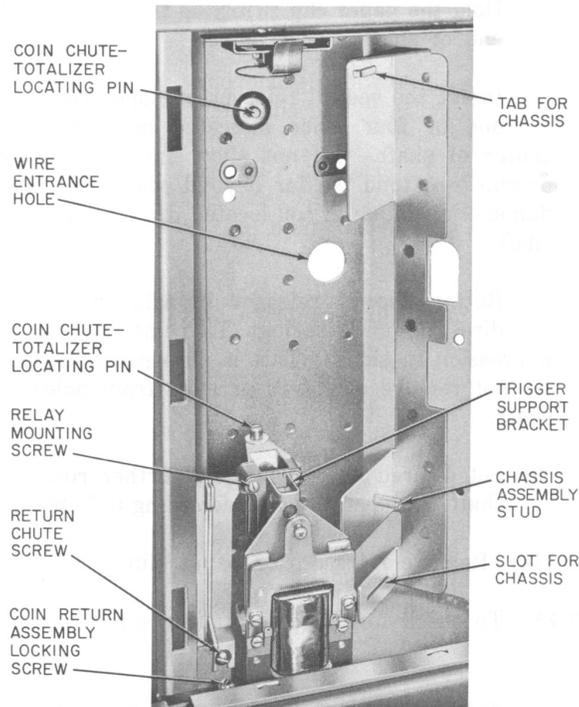
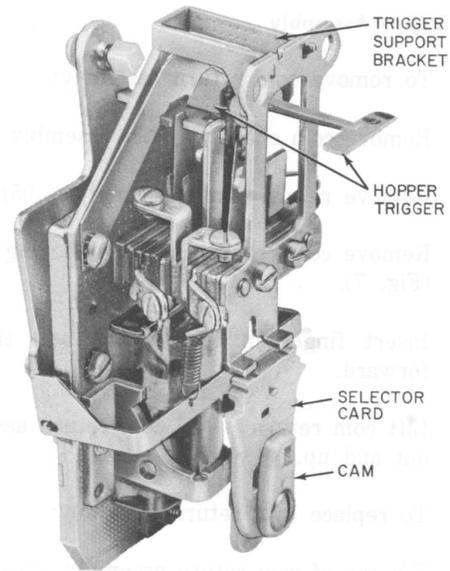

Fig. 7—Housing & Mounting Plate Assembly (Typical)
Fig. 12—Coin Relay
- (1) Place assembly on pins located on rear of hopper assembly, and back of housing (Fig. 7).
- (1) Slide chassis under tab (Fig. 7).
- (2) Seat chassis tabs in slots.
- (1) Disconnect black and yellow leads.
- (2) Remove two screws on top front of coin relay (Fig. 7).
- (3) Remove two hex head screws on sides of coin relay.
- (4) Check that hopper trigger (Fig. 12) is in horizontal (up) position and pull off coin relay. Take care not to damage hopper trigger.
Note: Do not attempt to install relay if trigger support bracket (Fig. 12) is so distorted that mounting holes do not engage bosses on hopper.
- (1) Remove coin chute-totalizer assembly (2.20).
- (2) Loosen screw on return chute assembly (Fig. 7).
- (3) Lift assembly up and off.
- (2) Remove return chute assembly (3.05).
- (3) Remove coin return assembly locking screw (Fig. 7).
- (4) Insert finger in coin return and tilt top forward.
- (5) Lift coin return. Pull coin return assembly out and up.